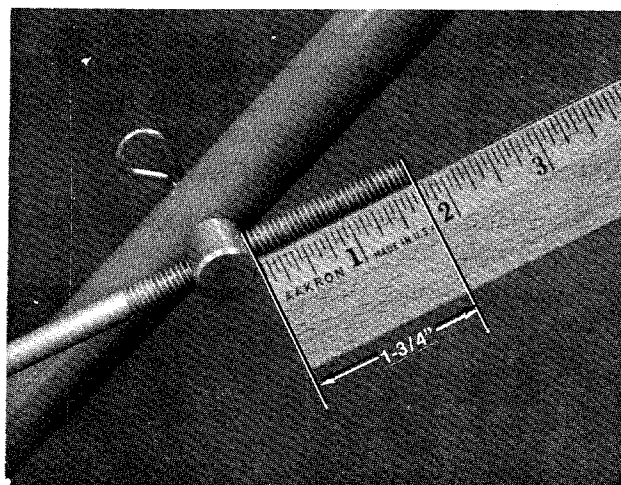

FIGURE 14
9. Figure 14 shows engagement rod setting for middle cutting height.